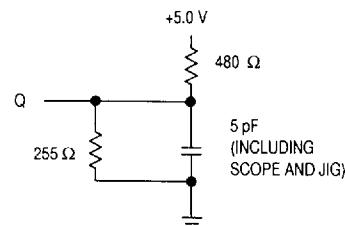

Figure 1B.
- Transition is measured ± 500 mV from steady-state voltage with load of Figure 1B.